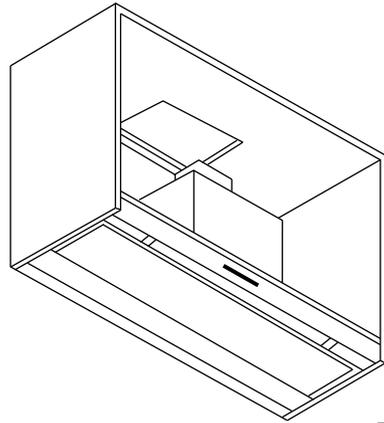

Fig 6
4. Push the Donizetti into the cupboard (Fig 6).